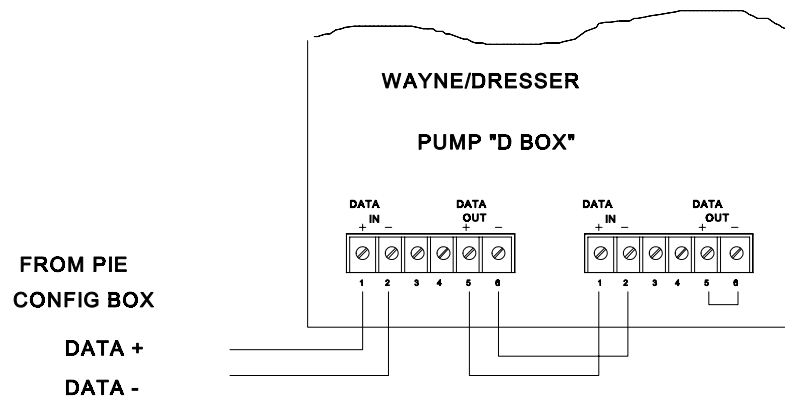

Figure 13: Wayne/Dresser Distribution Box
2. Locate the C2000's pump connection cable. Connect the wires into the Wayne/Dresser connection box, as shown in Figure 13.